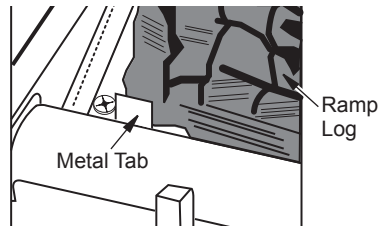
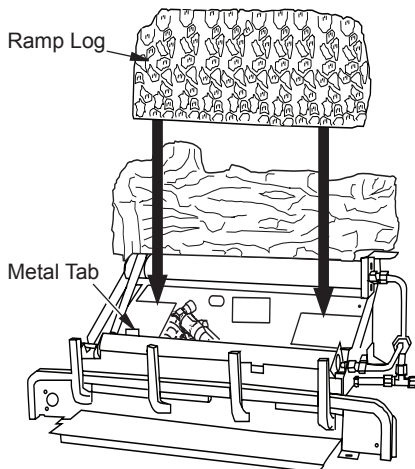

Figure 23 - Installing Log Set
Figure 28 - Installing Ramp Log
- The log must sit flat on the black sheet metal and behind the left metal tab as shown in Figure 23.
- Place ramp log in center of base assembly as shown in Figure 28. Make sure the side marked **BOTTOM** is setting down on the base. The log will sit behind the metal base as shown in Figure 23, page 18.